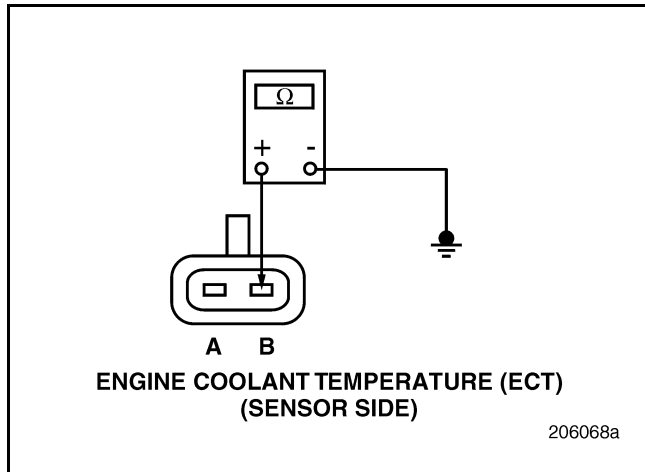

Figure 137
3. Check for continuity between either pin of the ECT Sensor and a good ground (see Figure 137).